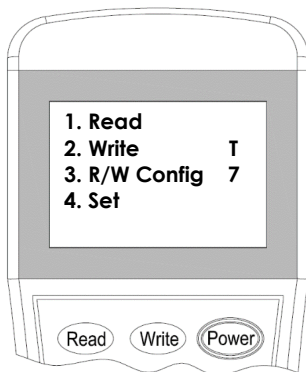

Figure 7
2. Switch-on the programmer, then press button **“Write”** or number **“2”** to enter Write Address mode (Figure 7).